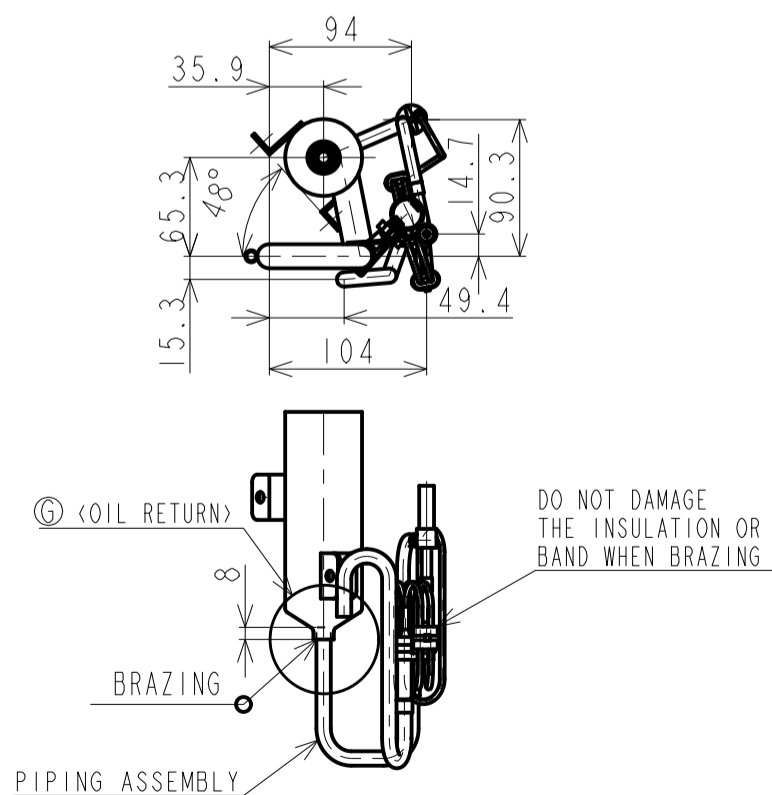
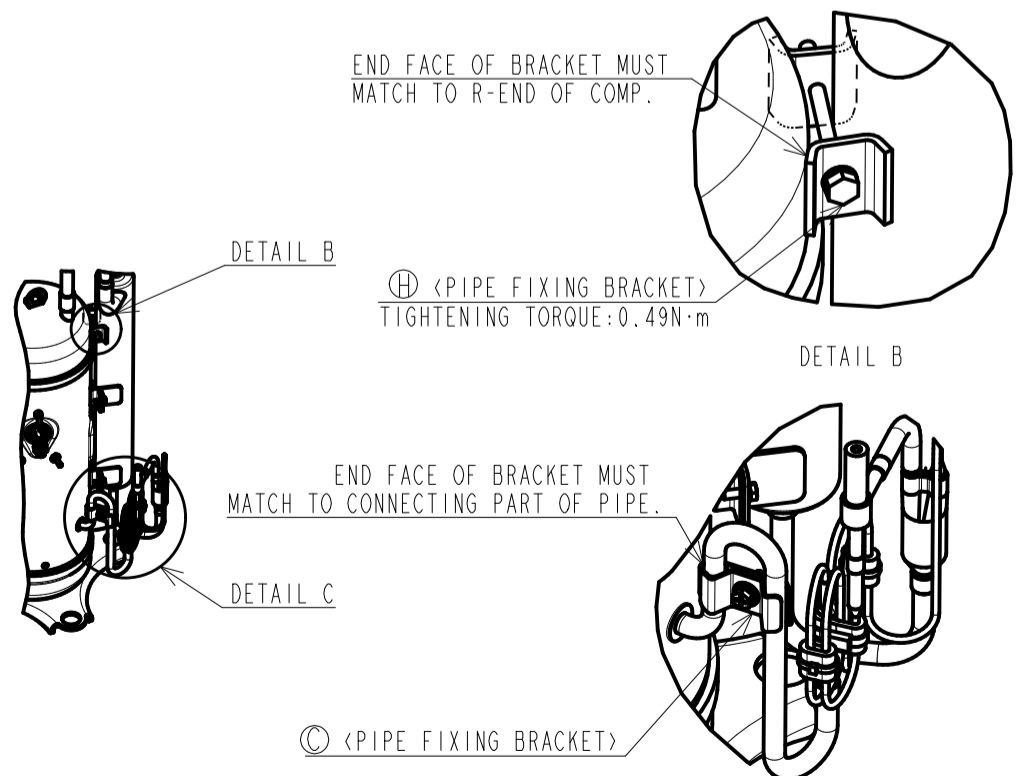
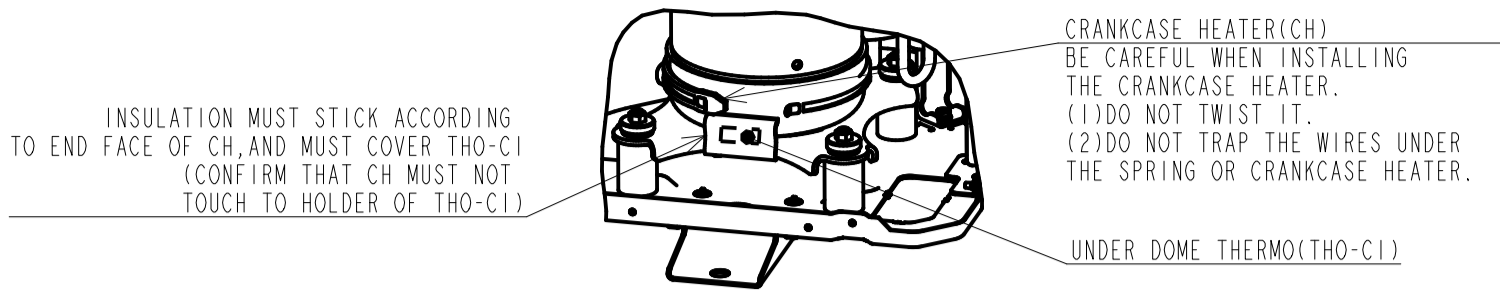

FIG.3 DETAILS OF OIL SEPARATOR ASSEMBLY AND PIPING ASSEMBLY BRAZING
FIG.4 INSTALLATION DETAILS OF PIPE FIXING BRACKET
FIG. 5 INSTALLATION DETAIL OF UNDER DOME THERMO
- ① REMOVE COMP-INSULATION.
- ② REMOVE COMP WIRING, CH, UNDER DOME THERMO, 63H, DISCHARGE PIPE THERMO, SV6 COIL
- ③ REMOVE THE BRAZING PARTS FOR (A) (DISCHARGE) AND (B) (SUCTION).
- ④ REMOVE THE COMPRESSOR AND OIL SEPARATOR ASSEMBLY FROM THE UNIT.
- ⑤ REMOVE PIPE FIXING BRACKET (C) AND (H).
- ⑥ REMOVE THE (D) (DISCHARGE) AND (F) (OIL RETURN) BRAZING PARTS.
- ⑦ REMOVE THE OIL SEPARATOR ASSEMBLY FIXING SCREWS (3 PLACES).
- ⑧ REMOVE THE (G) (OIL RETURN) BRAZING PART.
- ⑨ REMOVE THE SV6 PIPE FROM THE OIL SEPARATOR ASSEMBLY.
- ⑩ BRAZE THE OIL SEPARATOR ASSEMBLY AND THE PIPING ASSEMBLY (G). (FIG.3)
- ⑪ BRAZE THE OIL SEPARATOR ASSEMBLY TO THE COMPRESSOR (D, F).
- ⑫ FIX THE OIL SEPARATOR ASSEMBLY TO THE COMPRESSOR WITH SCREWS (3 LOCATIONS).
- ⑬ INSTALL PIPING FIXING BRACKET (C) AND (H) (FIG.4)
- ⑭ ATTACH THE COMPRESSOR AND OIL SEPARATOR ASSEMBLY TO THE UNIT.
- ⑮ BRAZE THE (A) (DISCHARGE) AND (B) (SUCTION).
- ⑯ RECONNECT THE WIRING. TIGHTEN THE COMP WIRING CONNECTIONS WITH THE SPECIFIED TORQUE SHOWN IN THE FIGURE.(FIG.5,6)